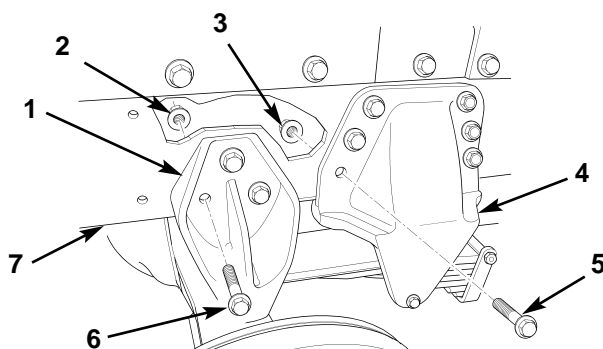

Figure 36. Removing Mounting Hardware from Suspension.
12. Remove two nuts (figure 36, item 2) and bolts (figure 36, item 6) from bottom mounting holes of rear alignment clip (figure 36, item 1) and frame rail (figure 36, item 7) at both sides of truck. Discard nuts (figure 36, item 2).
13. Remove two nuts (figure 36, item 3) and bolts (figure 36, item 5) from mounting holes at right-front, right-rear, and left-rear leaf spring shackles (figure 36, item 4) and frame rails (figure 36, item 7). Discard nuts (figure 36, item 3).